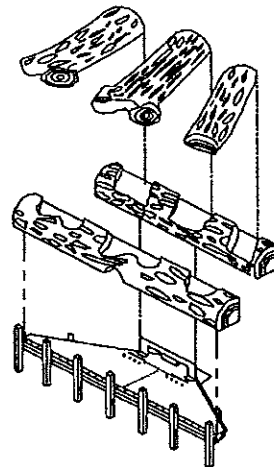

Figure 46 - Log Set (5 Pieces)
4. Carefully place the log set as shown in Figure 46. Be careful not to alter the pilot or burner location.